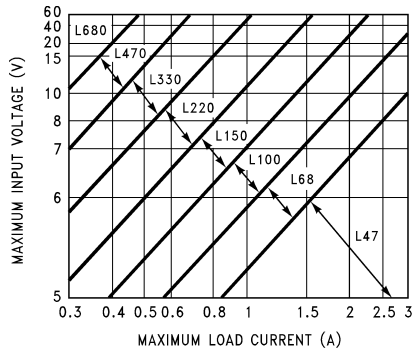
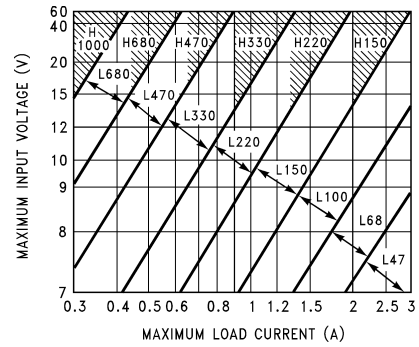
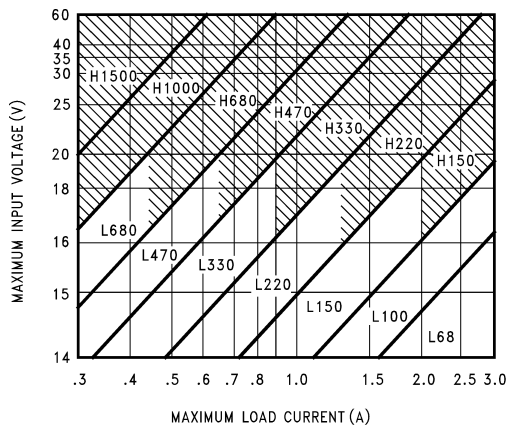
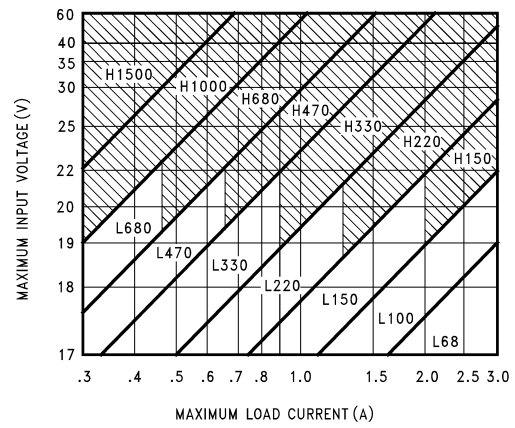

Figure 8-4. LM2576(HV)-3.3
Figure 8-5. LM2576(HV)-5.0
Figure 8-6. LM2576(HV)-12
Figure 8-7. LM2576(HV)-15
The inductor value selection guides in Figure 8-4 through Figure 8-8 are designed for buck regulator designs of the continuous inductor current type. When using inductor values shown in the inductor selection guide, the peak-to-peak inductor ripple current is approximately 20% to 30% of the maximum DC current. With relatively heavy load currents, the circuit operates in the continuous mode (inductor current always flowing), but under light load conditions, the circuit is forced to the discontinuous mode (inductor current falls to zero for a period of time). This discontinuous mode of operation is perfectly acceptable. For light loads (less than approximately 300 mA), it may be desirable to operate the regulator in the discontinuous mode, primarily because of the lower inductor values required for the discontinuous mode.
1. Select the correct Inductor value selection guide from Figure 8-4, Figure 8-5, Figure 8-6, or Figure 8-7. (Output voltages of 3.3 V, 5 V, 12 V or 15 V respectively). For other output voltages, see the design procedure for the adjustable version. Use the selection guide shown in Figure 8-5.
- Identify the inductor value from the inductor code, and select an appropriate inductor from the table shown in Figure 8-4. Part numbers are listed for three inductor manufacturers. The inductor chosen must be rated for operation at the LM2576 switching frequency (52 kHz) and for a current rating of $1.15 \times I_{LOAD}$. For additional inductor information, see Section 8.1.2. Inductor value required is 100 μH from the table in Figure 8-4. Choose AIE 415-0930, Pulse Engineering PE92108, or Renco RL2444.